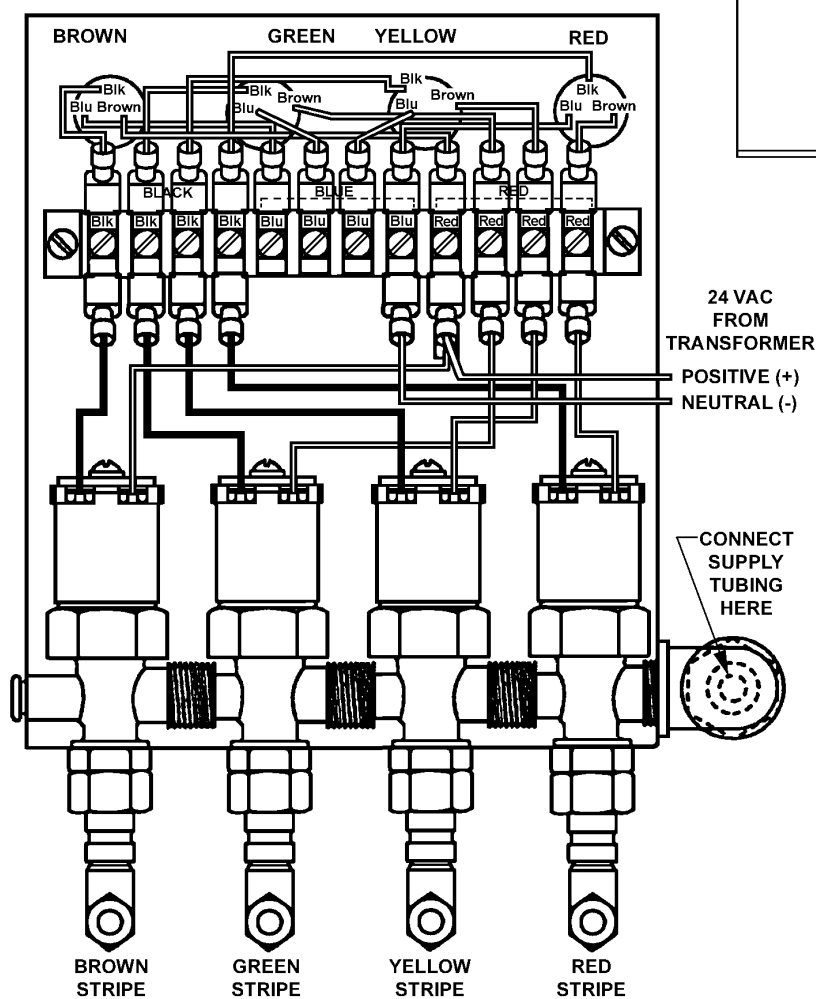
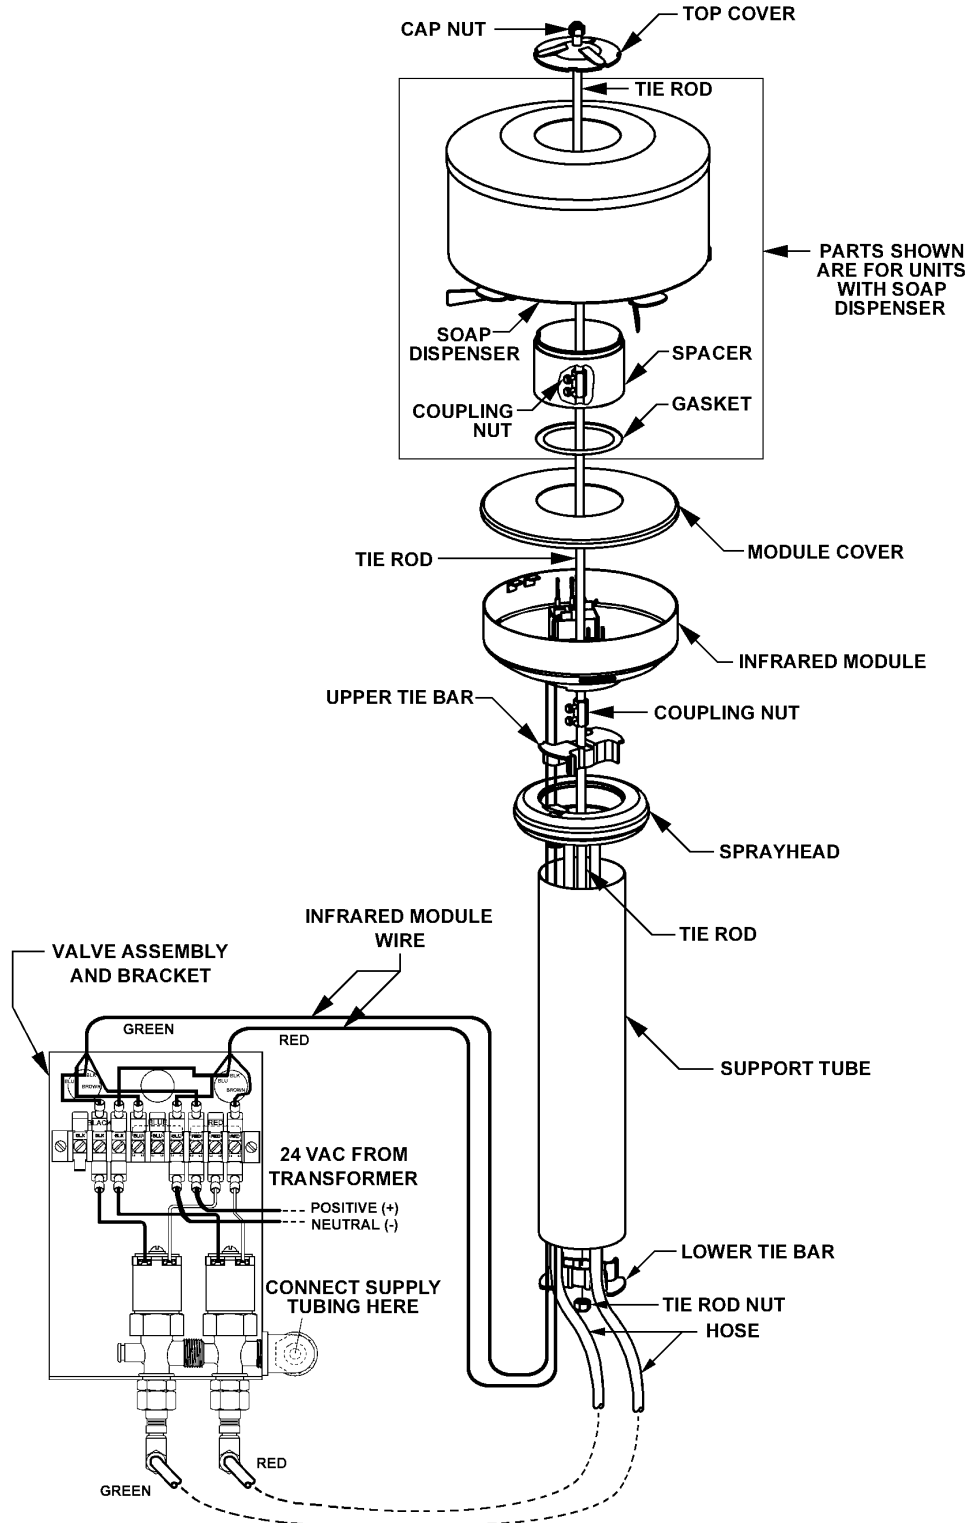

Figure 7
Figure 8
4. Install the 1/2" supply tube between the mixing valve and the solenoid assembly using the 1/2" x 3/8" reducer coupling and 3/8" x 1/2" tube connector (see Figure 7 on page 6 for supply tube connection location on the solenoid valve assembly).
6. Connect the color-coded supply tubes to the corresponding solenoid (see Figure 7 on page 6). Push the supply tube past the O-ring in the connector on the solenoid for proper seating (no tools needed).
NOTE: Refer to Figures 5 and 6 on page 5, Figure 7 on page 6 and Figure 8 on page 7 when installing the module and soap dispenser.
7. Connect the color-coded pair of wires with the female connectors from the module to the solenoid with the matching color-coded tube (refer to Figure 7 on page 6).
NOTE: Refer to Figures 5 and 6, Figure 7 on page 5 and Figure 8 on page 7 when installing the module.